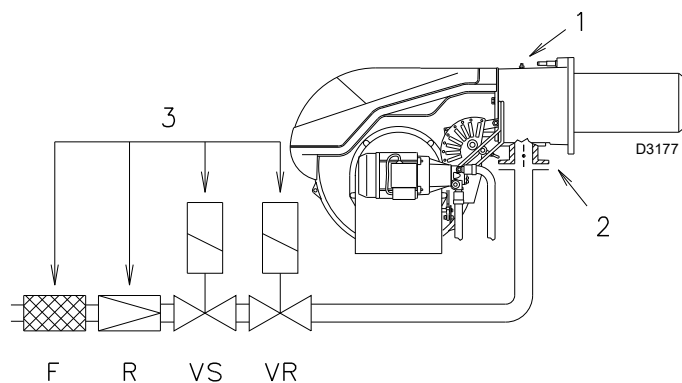

Fig. 27
Gas pressure measured at test point 1)(Fig. 27), with:
- subtract the combustion chamber pressure from the gas pressure measured at test point 1)(Fig. 27);
$$\begin{aligned} \text{Gas pressure at test point 1)(Fig. 27)} &= 21.9 \text{ mbar} \\ \text{Pressure in combustion chamber} &= 3 \text{ mbar} \\ 21.9 - 3 &= 18.9 \text{ mbar} \end{aligned}$$
To calculate the required gas pressure at test point 1) (Fig. 27), set the maximum output required from the burner operation:
Read, on the right, the pressure at test point 1)(Fig. 27).
pressure required at test point 1)(Fig. 27).